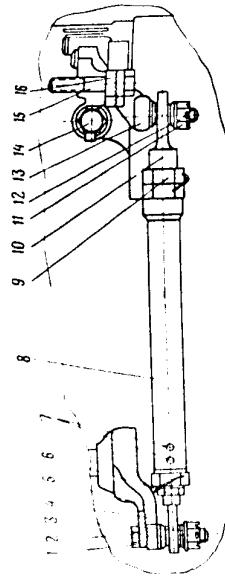

Fig.17. Attachment of HP-10A Pump to ПУ-3 Control Panel
28. Attach the free moving link (Fig.17) to the lever of the HP-10A pump; check and adjust engine controls. With the HP-10A pump lever shifted to the "CUT-OFF" (CTOII) stop (causing the pump throttle cock to close), the notches on the lever and on the housing of control panel NY-3 should coincide, while the zero mark of the control panel dial should set against the notch provided on the panel housing.
rack, and also change the length of the link by rotating the hexagon of the link body. The length of the pump lever arm should be changed in case of considerable lack of coincidence between the levers of control panel NY-3 and the HP-10A pump, when in the "STOP" (CTOII) position, while adjustment of the link should be performed when control panel NY-3 lever considerably deflects from $70 \pm 1^{\circ}$ (on the panel dial), with the pump lever being shifted to the maximum speed stop. When increasing the length of the link, watch the shackle entering the link, making use of the check holes provided in the link body (See Fig.17).